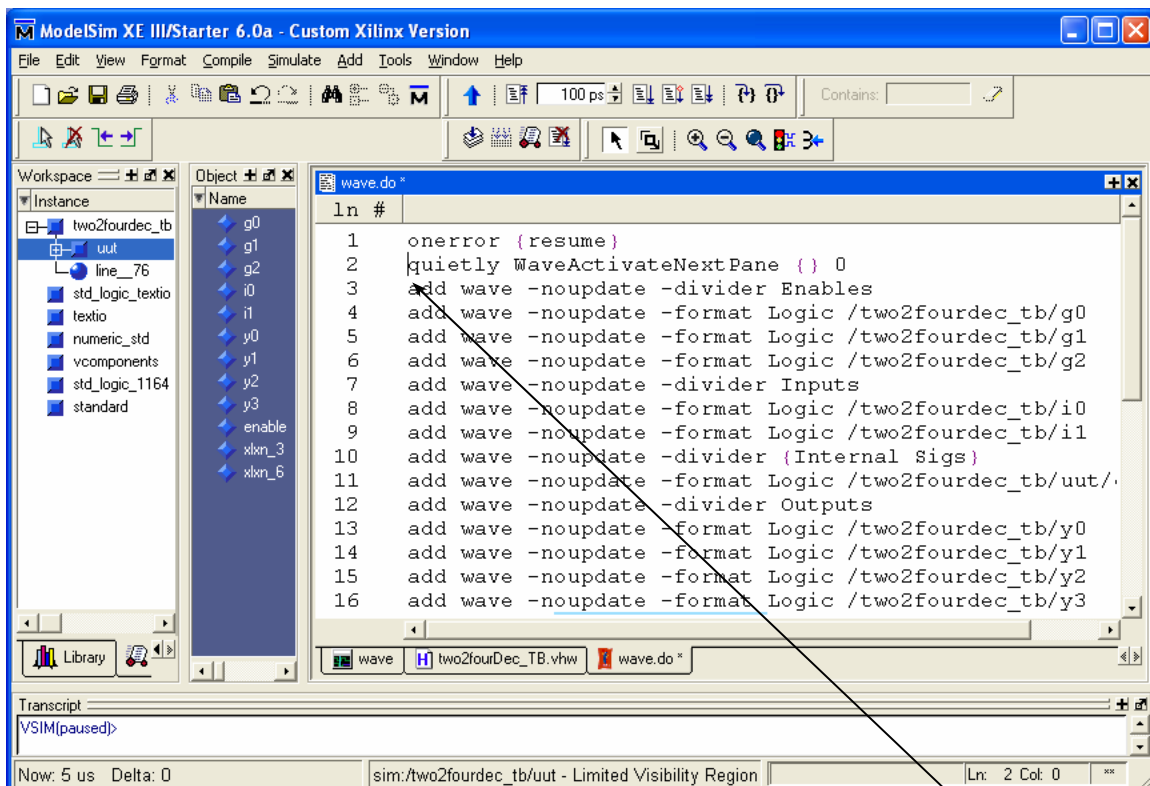

Figure 4, Macro file illustrated.
- vi. Figure 4 shows the macro file in place of the waveform area,